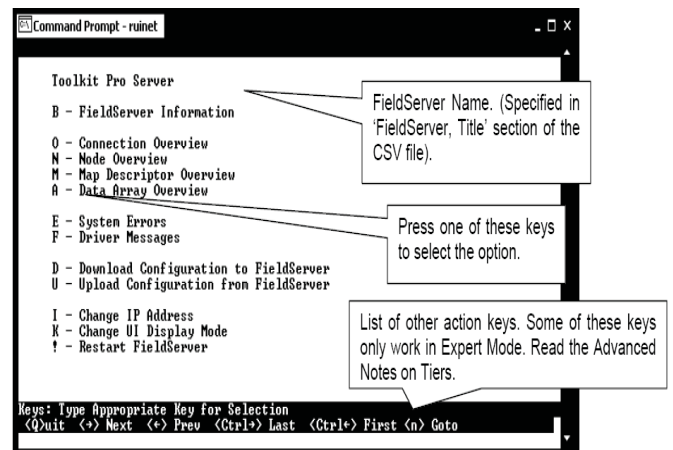

Figure 11: RUINET PT-Link II Main Menu
6.) Once connected, you will see the *RUINET Main Menu* (**Figure 11**). Unless you need to make changes to the config.csv file (steps 7 through 15), you are now ready to send and receive files to and from the PT-Link.